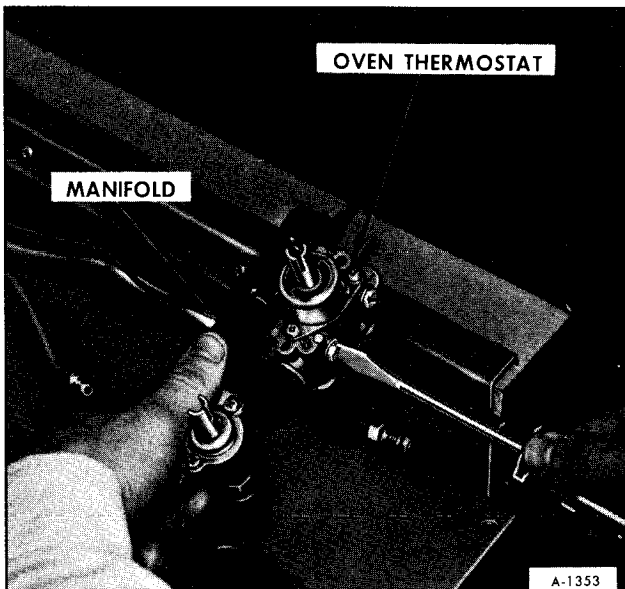

Figure 13-Removing Thermostat From Manifold
9. Turn manifold over and remove the two screws (figure 13) holding thermostat control and remove it from manifold.